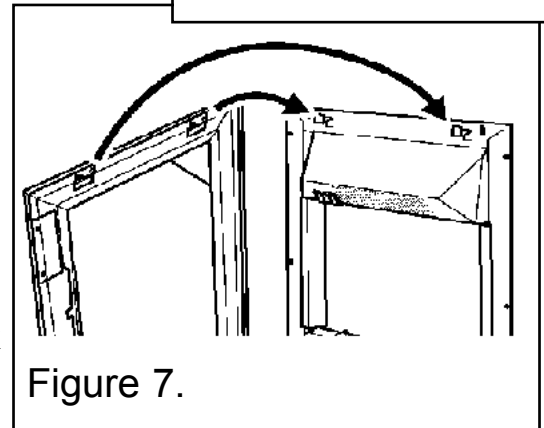

Figure 7.
- Carefully lift the front surround. Hook the front surround onto the retaining plates on the heater body and lower the front surround down - See figure 7.